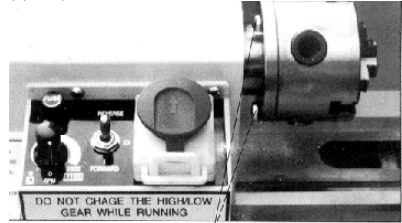

Fig. 6 Replacement Of Chuck
When replacing the chuck, place a cloth or a piece of wood on the bed way at the bottom of the chuck. This is to avoid damage to the bed way caused by carelessly dropping the chuck. Loosen the 3 set screws as shown in Fig.6 (A) to replace the chuck.